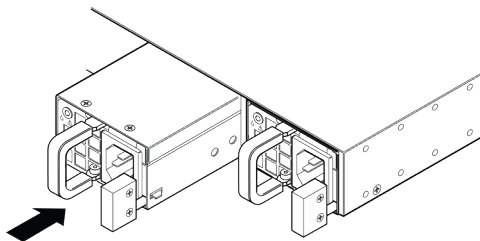

Figure 170: Installing a Summit AC Power Supply (770 W Model Shown)
- 4 Carefully slide the power supply all the way into the power supply bay, as shown in Figure 170.